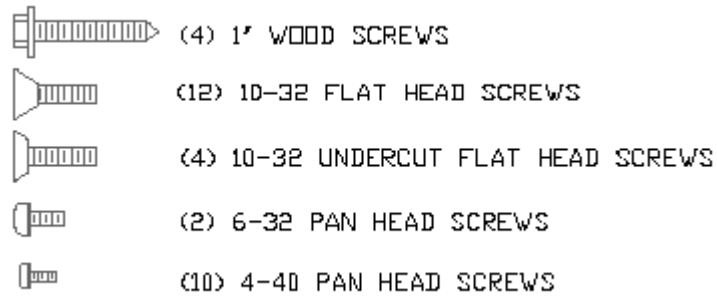

Figure 1. Mounting Screws
- 32 assorted mounting screws (see Figure 1)